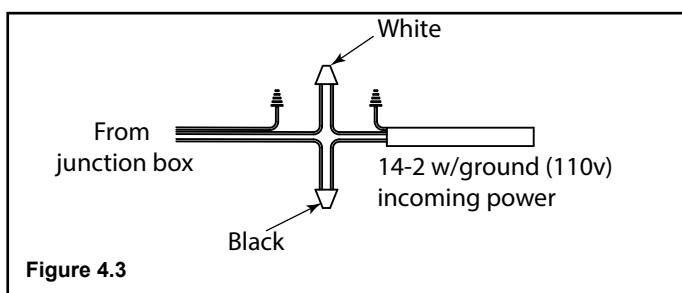

Figure 4.3
- Install cover plate. See Figure 4.3.